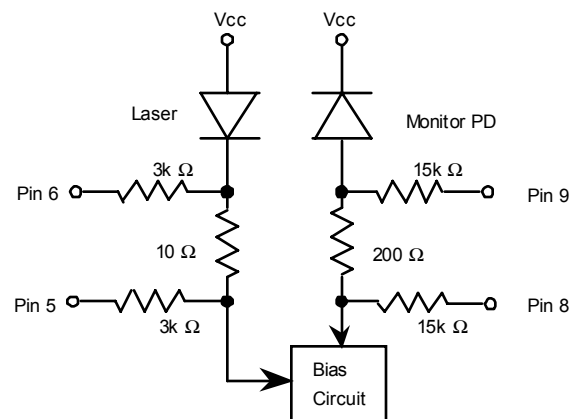

Figure 3 Monitor Circuit Schematic Diagram
8. The Laser Bias and Rear Facet Monitor currents are calculated as ratios of the corresponding voltages across the current-sensing resistors, 10Ω and 200Ω, respectively (See Figure 3). Upon measuring or utilizing these values, please use a device whose impedance is high enough (>1MΩ) compared with those resistors.